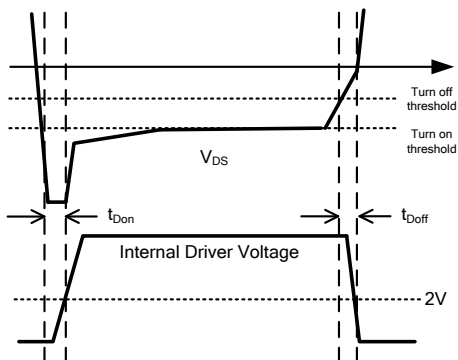

Figure 2: Turn-on and Turn-off Delay
1. Turn-on phase: The switch current first flows through the body diode of the integrate MOSFET, which generates a negative V_{DS} across it (less than -500mV). The voltage is much smaller than the turn-on threshold of the control circuitry (-65mV), which turns on the integrated MOSFET after a t_{Don} (100ns) turn-on delay (see Figure 2).
3. Turn-off phase: When V_{DS} rises to trigger the turn-off threshold (-30mV), the driver voltage of the switch is pulled low after t_{Doff} (30ns) of turn-off delay time by the control circuitry (see Figure 2). Similar with the turn-on phase, a 200ns blanking time is added after the switch turns off to avoid an erroneous trigger.